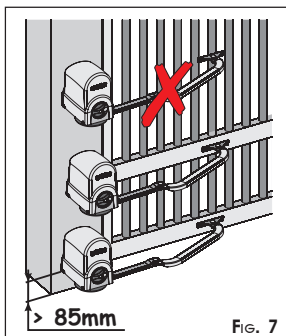

FIG. 7
- ② Establish the height of the operator, bearing in mind that:
- the securing bracket of the curved arm must be in a zone where it can be secured to the gate leaf (Fig.7)
- the minimum off ground height of the operator must permit securing the curved arm and positioning the lower housing (at least 85mm, see fig.7).